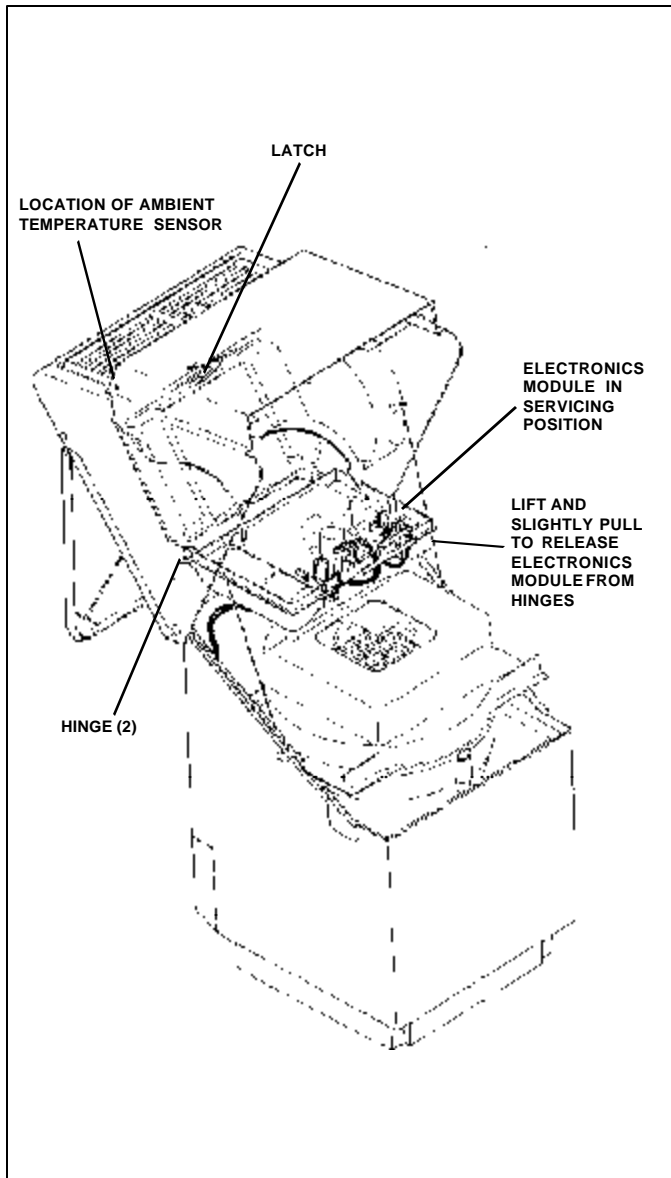

Figure 16 Electronics Module Removal
- Release the latch from the *Electronics Module* and tilt module down into servicing position (See Figure 16).
- Squeeze and pull the winged tabs on the *ambient temperature sensor* to remove it from the *service cover housing* - **DO NOT PULL ON THE FLEXIBLE CABLE** (See Figure 16 & 17).
- Lift the *Electronics Module* slightly and pull to release it from the VRA hinges (See Figure 16).
- Slide the *Electronics Module* into the hinges at the same angle required for removal, and then lower the module into the servicing position (See Figure 16).
- Insert the *ambient temperature sensor* into its socket; ensure that it is positively locked in position (See Figure 16 for Sensor location).